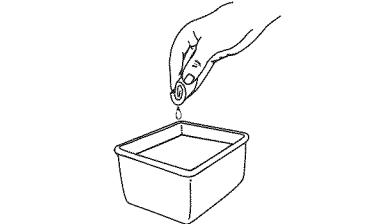

Fig. 35
3. Wash the filter in detergent and water (Fig. 35). Rinse the filter thoroughly and allow it to dry.